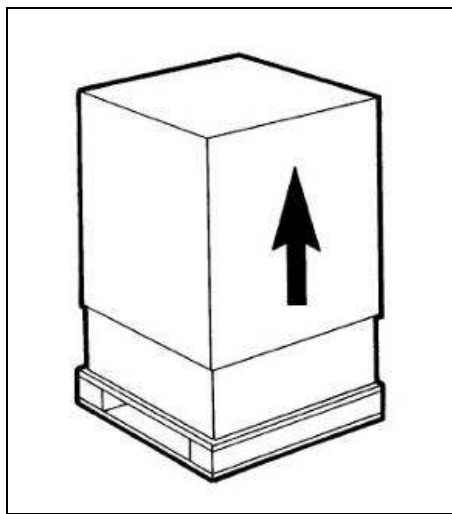

Fig. 1
a) After removing the packaging, **preserve all parts of it for winter storage** and ensure the integrity of the appliance (fig. 1).